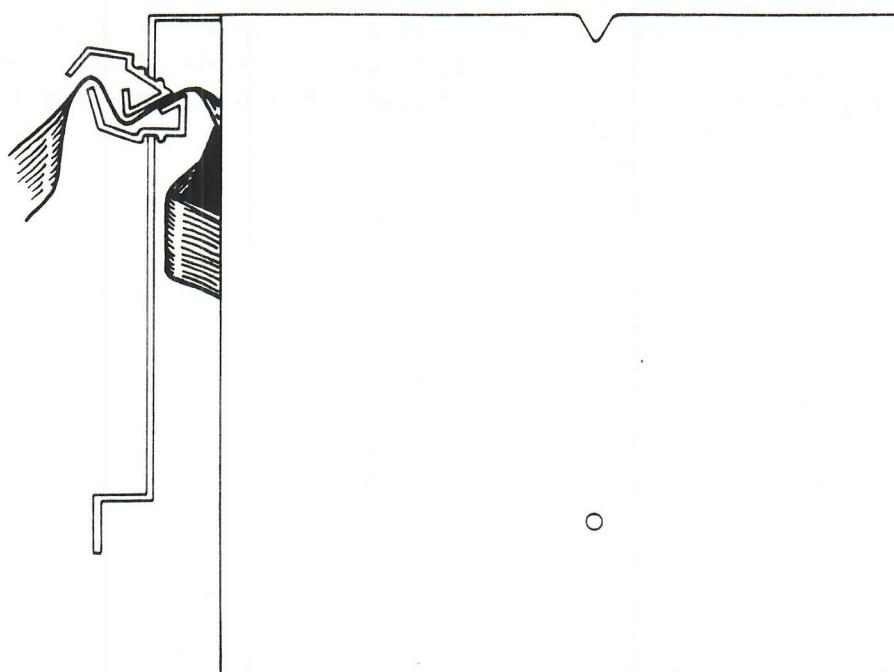

FIGURE 1
Disk /// (Figure 1)
10. Remove the flat cable from the back of the drive by pressing the strain relief (Figure 1) out of the slot and removing the cable. Slip a screwdriver inside the metal shield and pry down on the strain relief while simultaneously pulling down and out from outside. Be sure not to crush the cable when prying the strain relief. (Large pliers can be used to compress the strain relief enough to separate it from the mounting bracket.) The relief will come apart in two pieces. The strain relief can be a real bear, so be persistent!